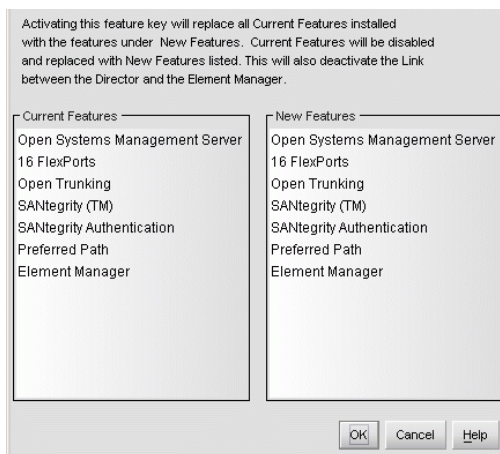

Figure 2-39 Install Feature Key Dialog Box
4. Type the feature key (case-sensitive xxxx-xxxx-xxxx-xx format) and click *OK*. The *Install Feature Key* dialog box displays (Figure 2-39).